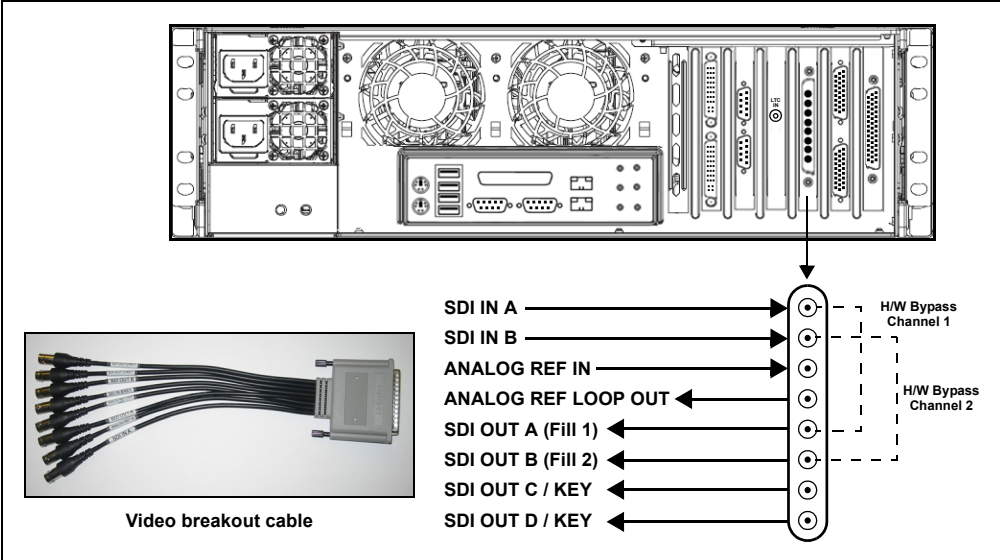

Figure 2-4. The Vertigo XG video card's input and output connections
Depending on the model, Vertigo XG devices offer two (2) video SD/HD input channels with one (1) or two (2) video SD/HD output channels. Figure 2-4 and the following table identifies and describes the Vertigo XG video card's input and output connections, including the hardware bypass.